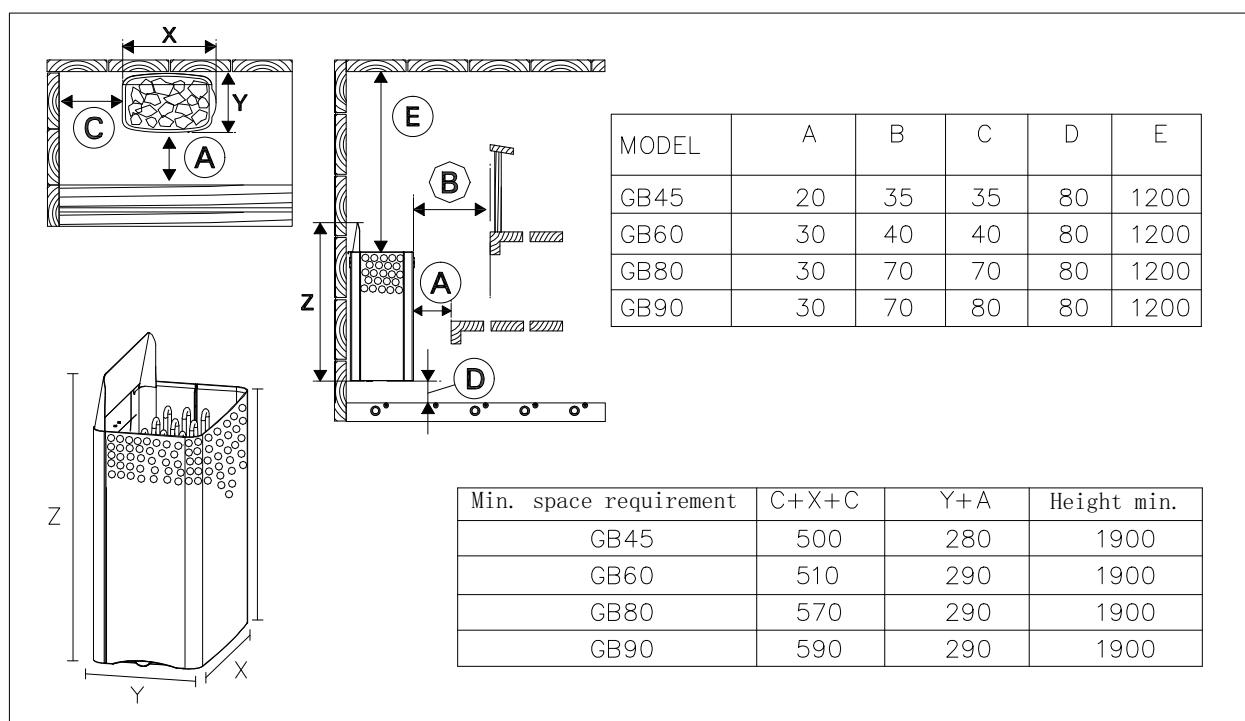

Figure 2. Minimum safety distances (all measurements in millimeters)
- The location of the heater fulfills the minimum requirements concerning safety distances given in figure 2
The minimum safety distances are shown in figure 2.
If a safety railing is built around the heater, the minimum distances given in figure 2 or in the railing's instructions for installation must be observed.